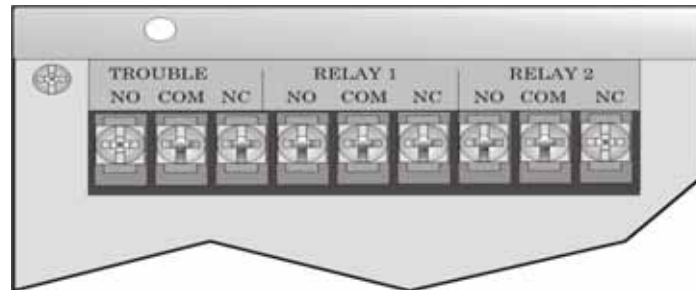

Figure 4-40 Location of Conventional Relay Circuits
1. Wire Relay 1 and/or Relay 2 as needed for your application. See Figure 4-40 for the location of the relay terminals.